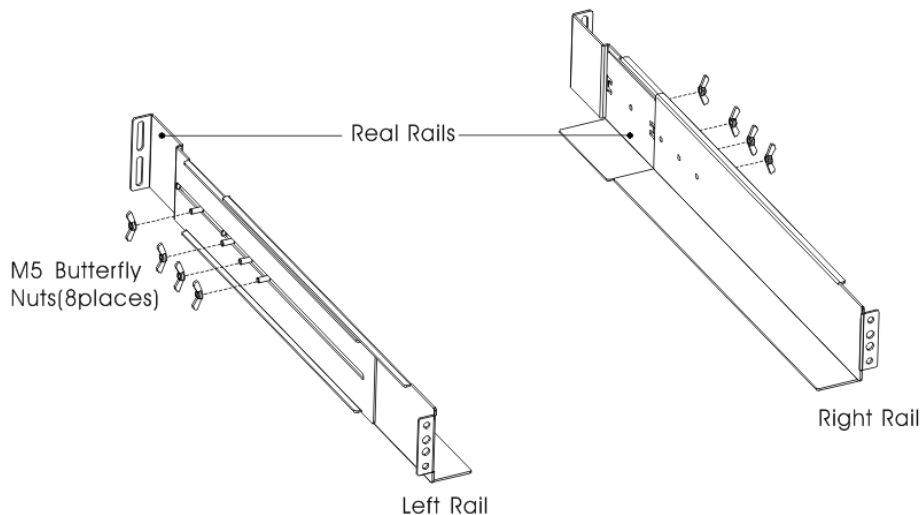

FIG.3 Securing the Rails
1. Assemble the left and right rails to the rear rails as shown in FIG.3. Do not tighten the screws. Adjust each rail size for the depth of your rack.
2. Select the proper size in the rack for positioning the UPS (FIG. 3). The rail occupies four positions on the front and rear of the rack.